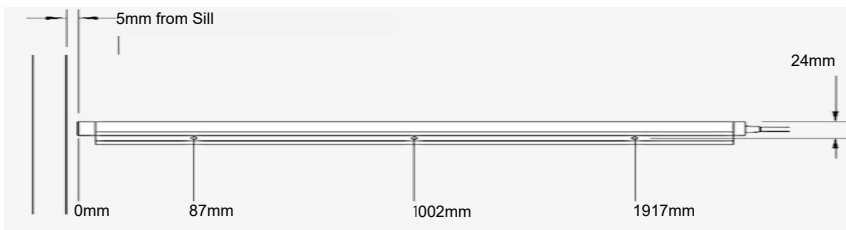

Fig 2: E10 Fixture Holes
2. Position each detector on the doors 5mm above the sill (Fig 2.)